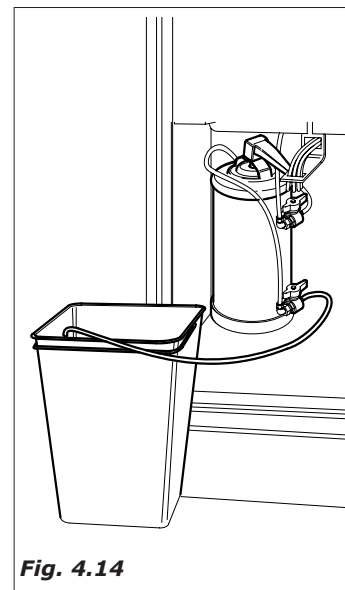

Fig. 4.14
- Let the water flow until it is clear (Fig. 4.14).